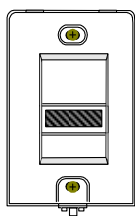
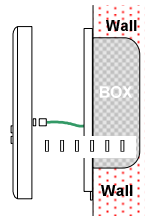

FIG. 2
FIG. 3
- When installation, the first step remove the bottom plate of NVE20V (as shown in Figure 2), the second step will be fixed the bottom plate on the wall flat and smoothly, the third step connect the cable to the control panel (as shown in Figure 3), the fourth step will be hung the cover from above into the bottom plate, the fifth step gently press the bottom of cover until heard a snapped sound, and then means the installation is complete (as shown in Figure 4).